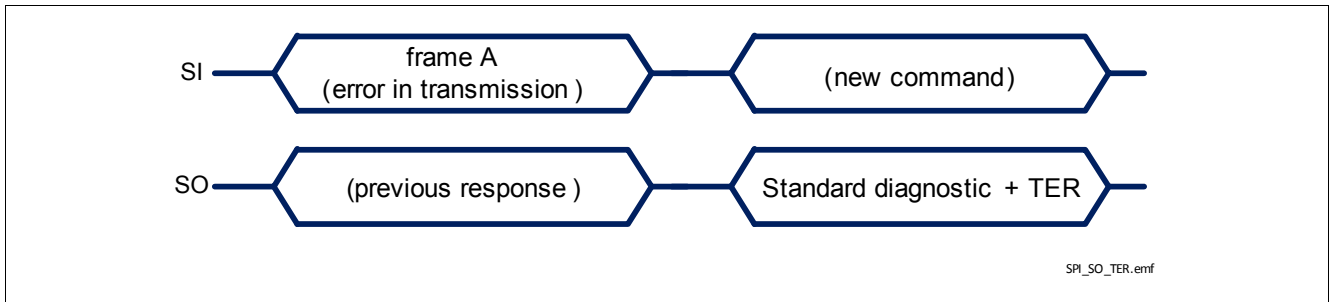

Figure 29 TLE75008-EMD response after a error in transmission
- in case an error in transmission happened during the previous frame (for instance, the clock pulses were not multiple of 8 with a minimum of 16 bits), shown in **Figure 29**